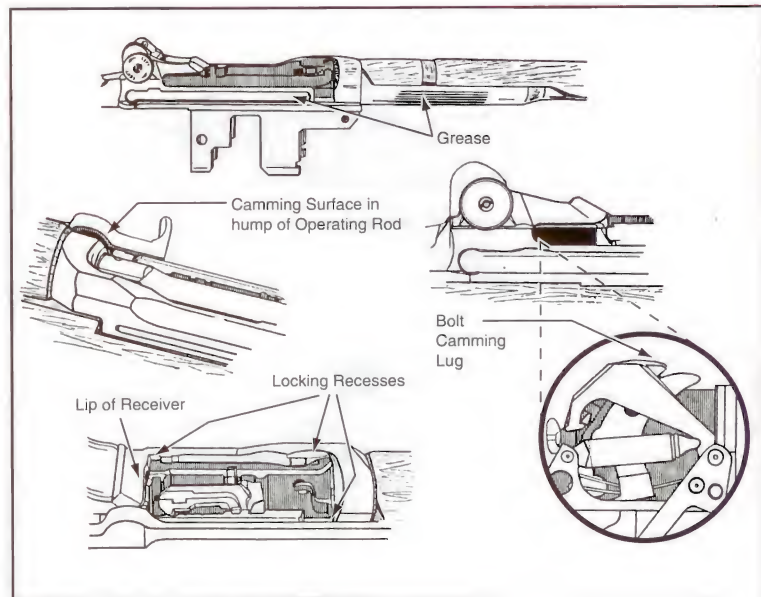

Fig. 39 - Points to apply rifle grease.
6. Rifle grease such as Lubriplate should be applied to the surfaces shown in the illustrations in Fig. 39. Any surfaces in the mechanism that show bright wear from friction also can profitably be greased sparingly (but do not put oil or grease on the engagement lugs of the hammer, trigger or sear). In addition, a very light film of grease on the forward eight inches of the operating rod will keep carbon from adhering to the rod. Grease should not be used in extreme cold, and the rifle should be left dry in very sandy conditions.